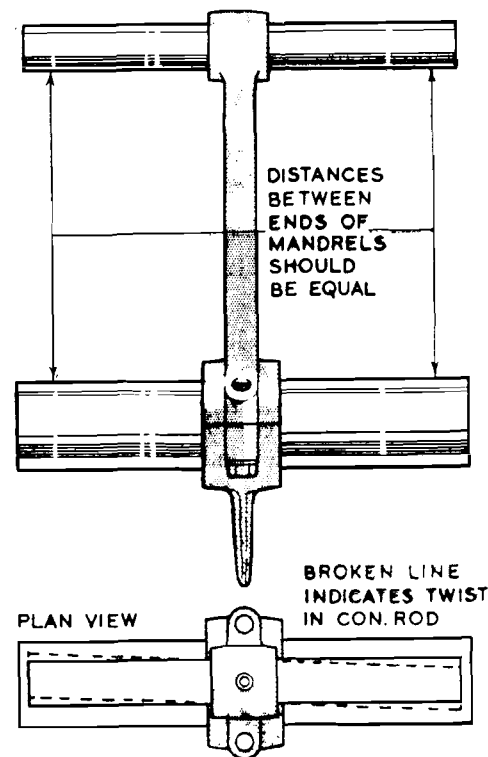

FIG. 1 A METHOD OF CHECKING CONNECTING ROD ALIGNMENT BY THE USE OF MANDRELS.
2. Remove timing gear cover and mark timing gears with No. 1 Piston at T.D.C. (See Part II, Fig. 1).